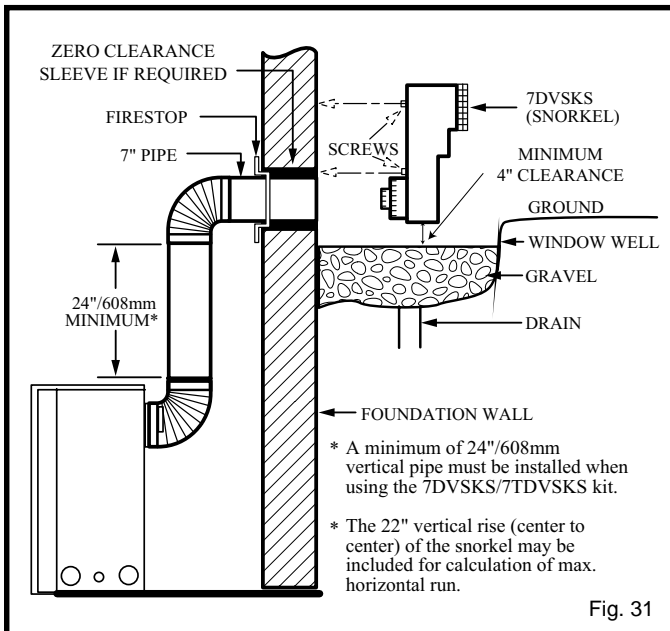

Fig. 31
2. Remove soil to a depth of approximately 16" (406mm) below base of snorkel. Install window well (not supplied). Refill hole with 12" (305mm) of coarse gravel leaving a clearance of approximately 4" (100mm) below snorkel. (Fig. 31)
7. Level the soil so as to maintain a 4" (100mm) clearance below snorkel (Fig. 31).